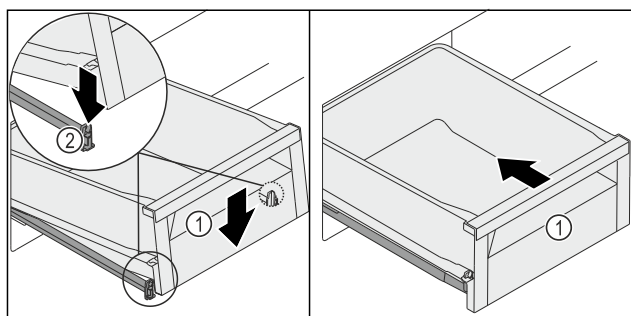

Fig. 125
- ▶ Lower the front of the drawer Fig. 125 (1) so that the drawer slides into the clamp Fig. 125 (2) on the left and right.
- ▶ The drawer Fig. 125 (1) latches in audibly.
- ▶ Push in the drawer Fig. 125 (1).